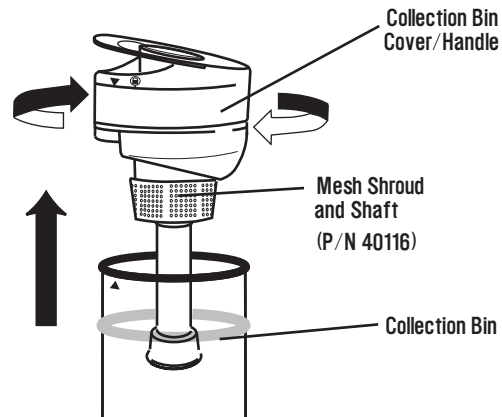

Figure 12b
6. With your other hand, turn the Collection Bin Cover/Handle a quarter turn counter-clockwise to the UNLOCKED position. (See Figures 12b and 12c.)
7. Separate the Collection Bin Cover/Handle from the Collection Bin by pulling the Handle straight up and out of the Collection Bin. (See Figure 12b.)